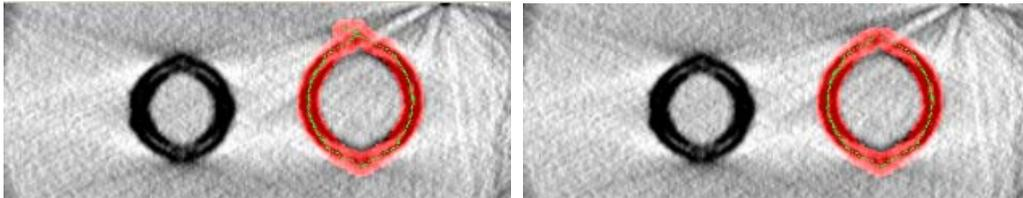

Figure 19: Propagated segmentation with artifact-induced error (left) and after adjustment (right).
9. Press the **Propagate** button and observe the results. When propagation is complete, left-click on the center of the vesicle and examine the transverse displays. In the direction of smaller slice indices, the propagation automatically stopped near the end of the vesicle; in the direction of larger slice indices, the segmentation erroneously followed an artifact beyond the end of the vesicle (Figure 19).